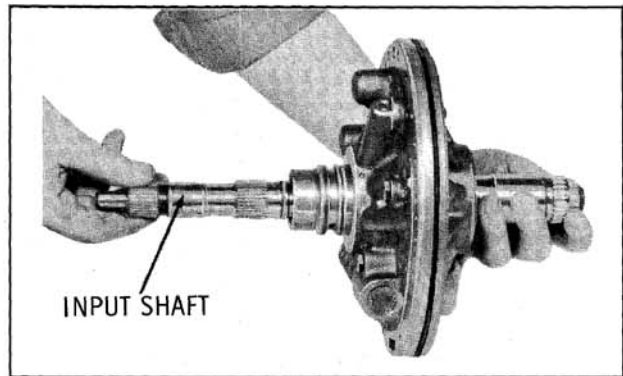

Fig. 6-513 Installing Input Shaft
6. Install input shaft into oil pump; then install pump into case. Apply a thin coat of oil around edge of pump. (Fig. 6-513)